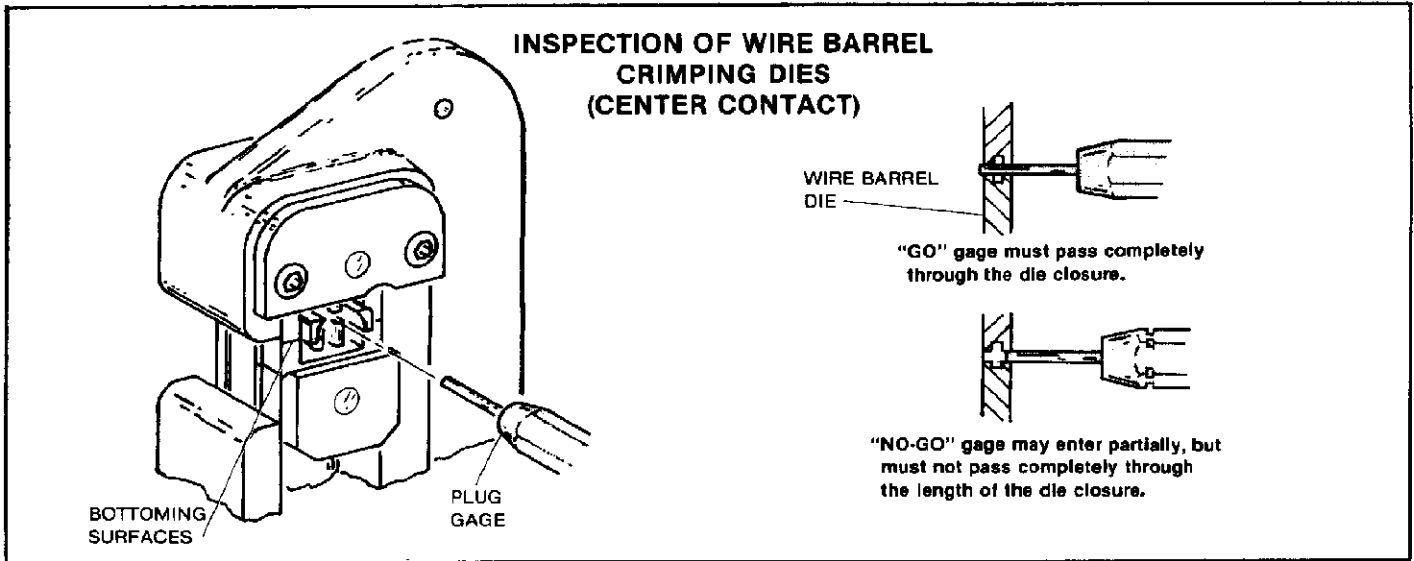

Figure 10
- (c) With crimping dies bottomed, check wire barrel die closure using proper plug gage. See Figure 7. Hold gage in straight alignment with tool and carefully try to insert, without forcing, the GO member. See Figure 10. GO member must pass completely through crimp die closure.
- (d) Try to insert NO-GO member. The NO-GO member may enter partially, but may not pass completely through the length of the die closure. See Figure 10.